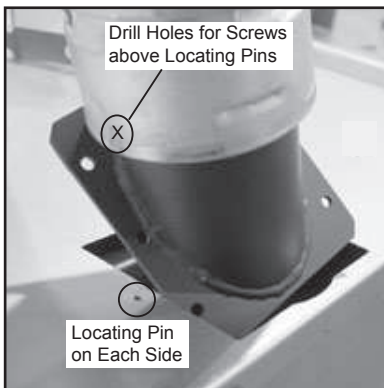

Figure 36.2
6. Lay the first section of pipe on its side for screw attachment. The 2 screws need to be directly above the locating pins, 180 degrees apart. **Figure 36.2 on page 36.**